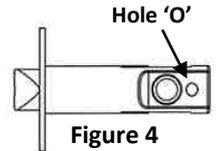

Figure 4
- The guide will locate in Hole 'O' of the latch to help maintain positioning. (Figure 4)